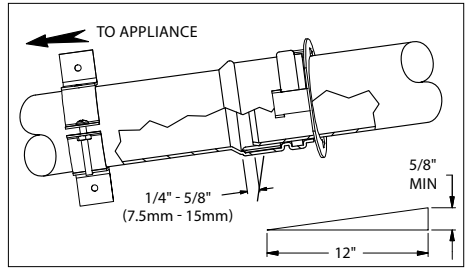

Figure 7
slope for drainage. **(Fig.7)**
- The slope of the vent pipe must be at least 3° (5/8" per ft, 50mm per meter) back to the appliance. (**Fig.7**)
- The venting system shall be securely supported using suitable hangers. Duravent hardware is recommended; field supplied support hardware suitable to the AHJ is acceptable, hardware must not deform or damage the vent. (**Fig. 7 and 8**) Make sure the load of the vent system is not supported by the appliance.
PP Pipe sections must be disengaged 1/4"-5/8" per joint (to allow for expansion) and sloped 3°(5/8"per ft) back to the appliance per Fig.7 for proper condensate flow.